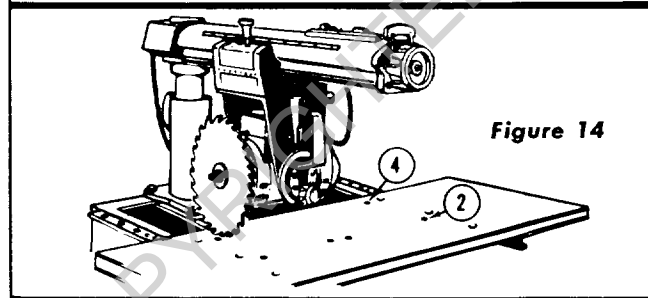

Figure 14
8. Swing the blade to front of table on right-hand side. Adjust screw at point (2, figure 14).
9. Move blade to back of table. Raise the table to blade height at this point by adjusting the screw at point (4, figure 14). Tighten channel clamping screws at front and back of base on right-hand side.